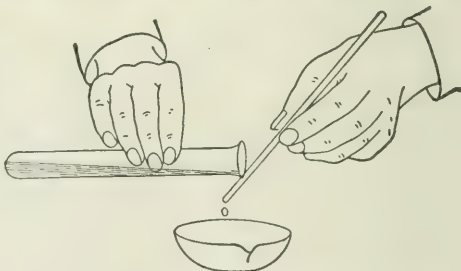

Fig. 7. Pouring a liquid down a glass rod.
**Stirring rods** should be fire-polished. They are very convenient in pouring liquids. The liquid may easily be made to flow down the rod (Fig. 7). A stirring rod should also be used in testing with litmus paper. Put a drop of the liquid to be tested on the paper, don't dip the paper into the liquid.